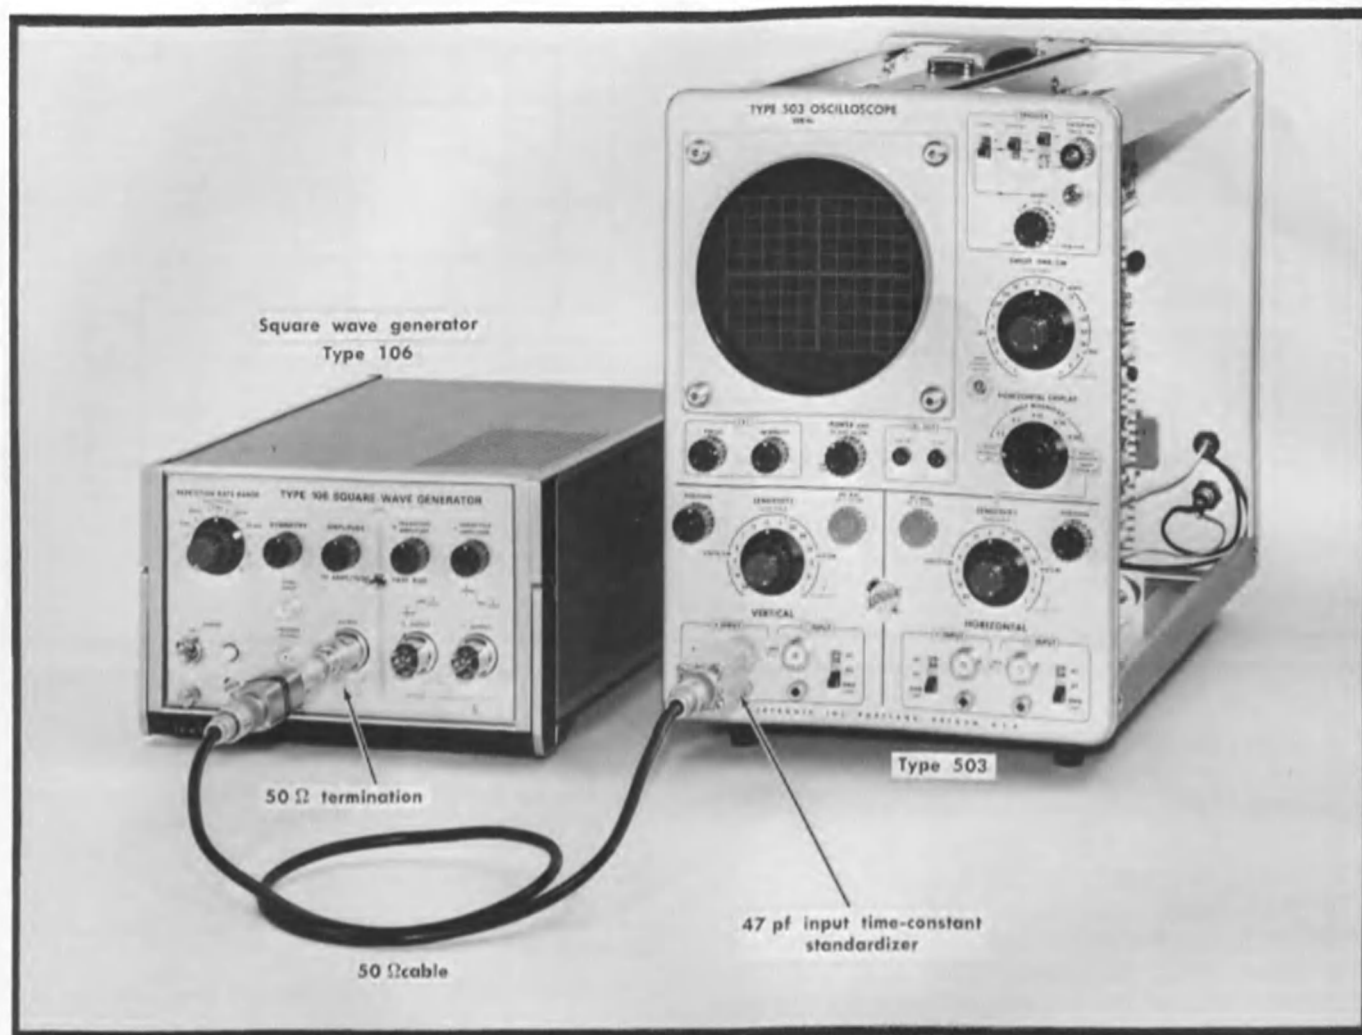

Fig. 6-15. Equipment setup for adjusting Vertical Amplifier attenuator compensation.
- The equipment setup is shown in Fig. 6-15.
- Set the square-wave generator (item 4 of Recommended Equipment) to supply a 1-kHz square wave.